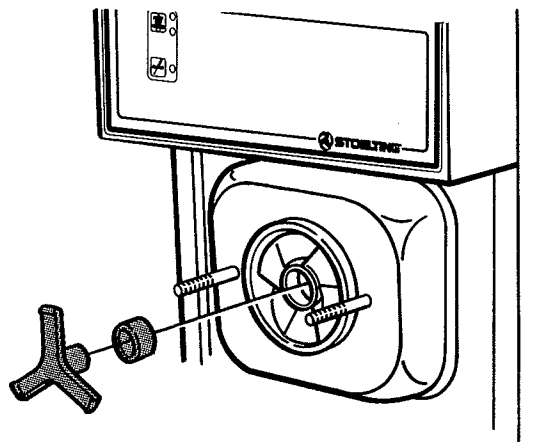

Figure 26. Front Auger Support Removal
- C. Remove the front auger support and bushing. (See Fig. 26.)